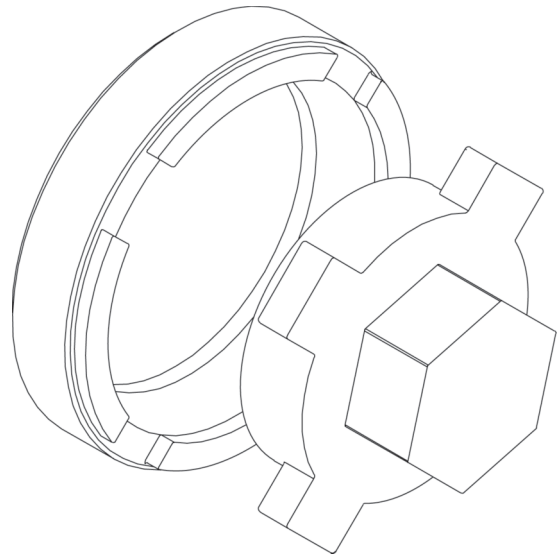

Figure 6: Seat Retainer Tool
- Use the appropriate tool (see figure 6) to remove the seat retainer. If necessary, these tools may be purchased from Valtek Sulamericana.